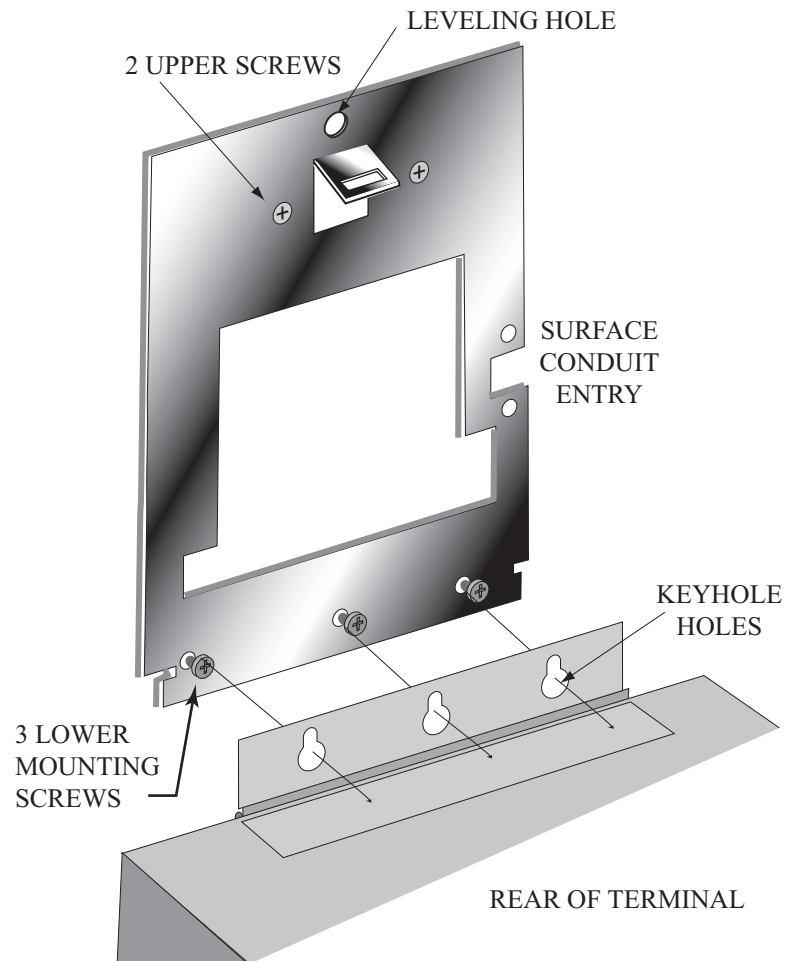

Figure 12-3: Attaching the HandPunch to the Wall Plate
3. At the base of the HandPunch is a piano hinge with three keyhole shaped slots that correspond with the three lower mounting screws. Align and hang the HandPunch from the three lower mounting screws (see Figure 12-3 on page 46).